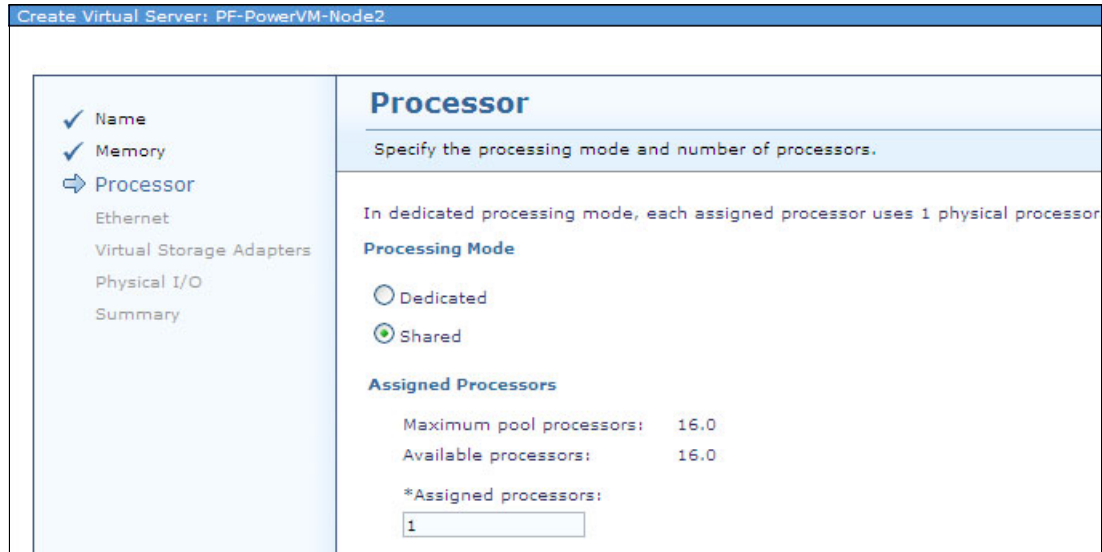

Figure 10-9 Creating the VIOS profile: Processor
- Define the processing mode and how many processors are used for VIOS, as shown in Figure 10-9.